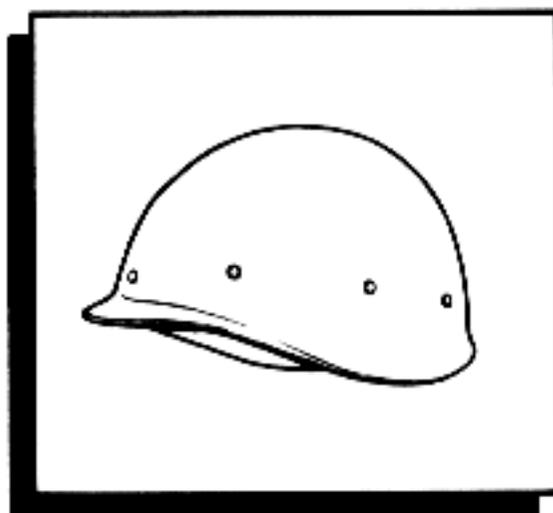

Figure 2-16. Helmet liner.
**Helmet Liner.** Wear the ground troop's helmet liner (figure 2-16) with the ground troop's helmet for comfort and added ballistic protection. You may also wear it, without the helmet, as a head covering. The liner includes a six-point suspension system made up of cotton webbing with six slide fastener clips attached. The headband is attached to the suspension webbing. There are also three small buckles attached to the neckband. Clean the helmet liner with mild soap and warm water. Rinse and dry it thoroughly. Clean headbands, neckbands, and chin straps by scrubbing them with a cloth and soapy water. Rinse them thoroughly, and let them air-dry.